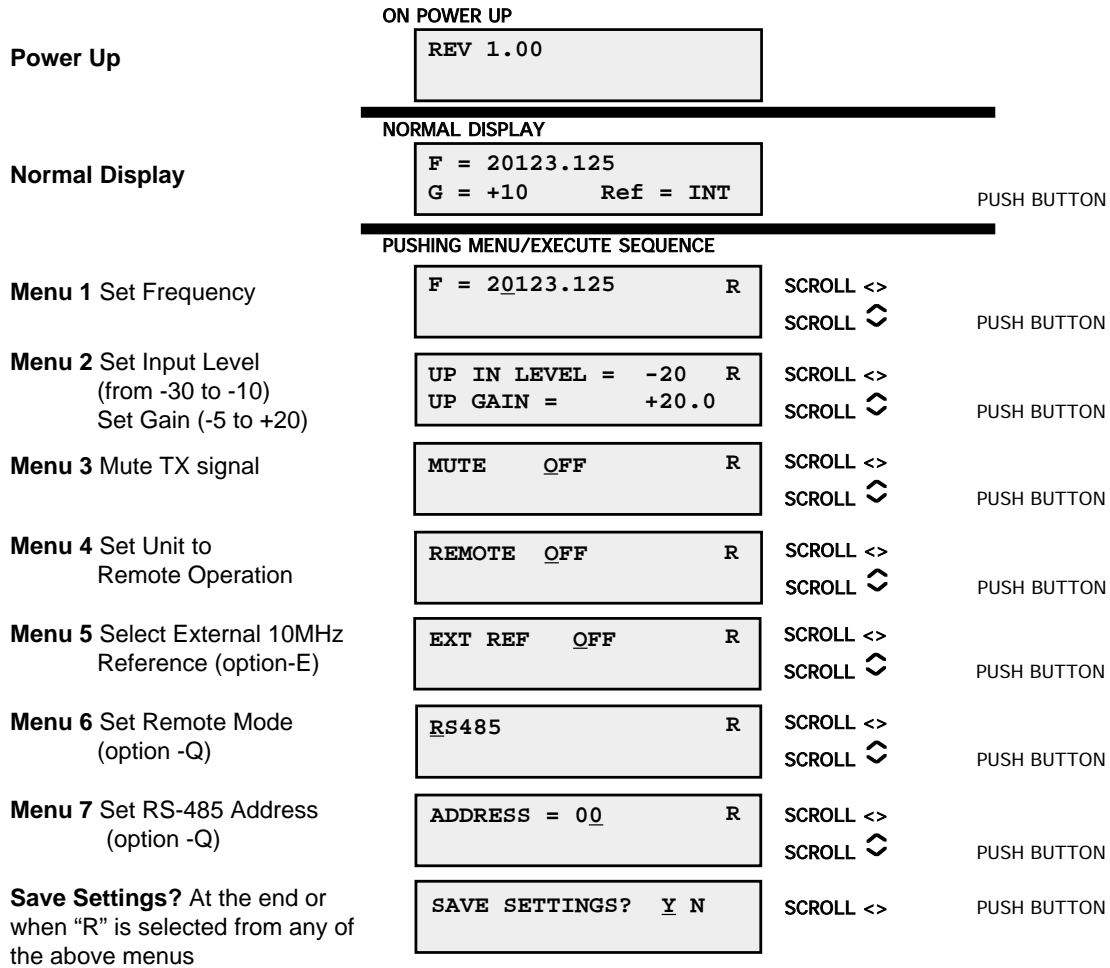

FIGURE 2.5 Menu Display and Sequence
2.5.1 Functions - This section describes operation of the front panel controls. There are three operator switches, the LCD display and alarm indicator LEDs. All functions for the equipment are controlled by these components. The functions are (see Figure 2.5, page 15):
1. Operate the Menu/Execute switch until you get to the menu item you want to change see Figure 2.5 for the sequence of menu options. The following display is for changing the upconverter frequency:
Figure 2.5 shows all the menu items and how to make changes.
Operate the Menu/Execute switch until you get to the menu item you want to change (see Figure 2.5 for the sequence of menu options). The following display is for changing the upconverter input level. This is an important setting to optimize spurious and should be made as accurately as possible:
Figure 2.5 gives the menu items and how to make changes.